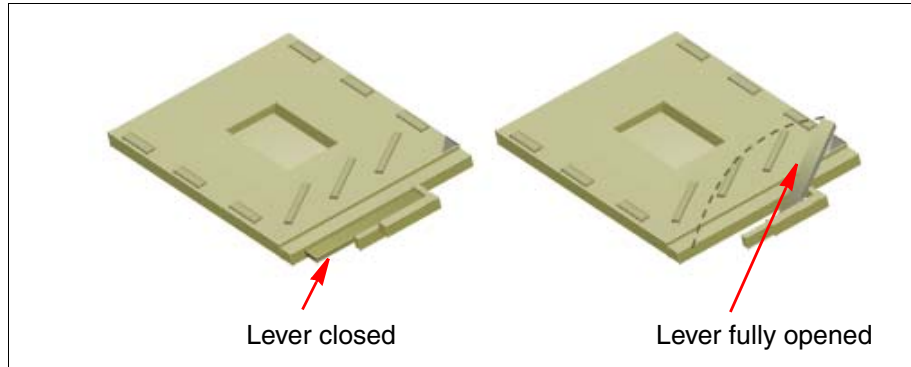

Figure 3-5 Processor board showing processor release lever
Verify the orientation of the socket *before you install* the processor in either of these sockets. Figure 3-5 on page 97 shows the orientation of the sockets.
11. Lift the processor-release lever to the fully opened position, which is approximately a 135° angle. See in Figure 3-5 on page 97.